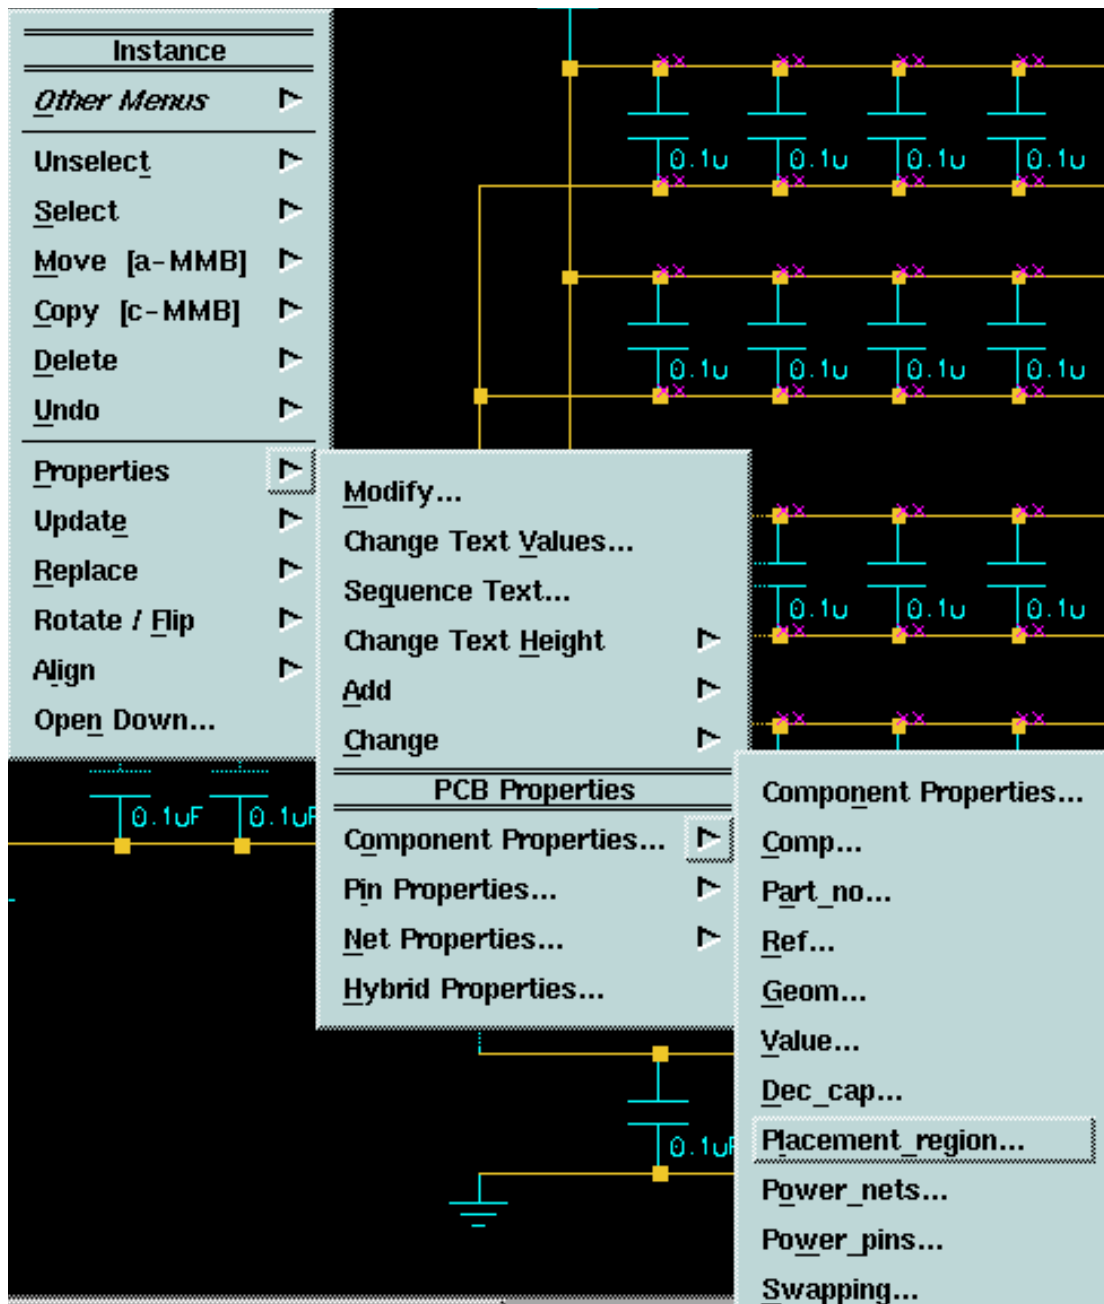

Figure 2-35. [Instance] Properties > PCB Properties Submenu
2. In the Edit window, choose the **[Instance] Properties > Component Properties > Placement_region** menu item, shown in Figure 2-35.